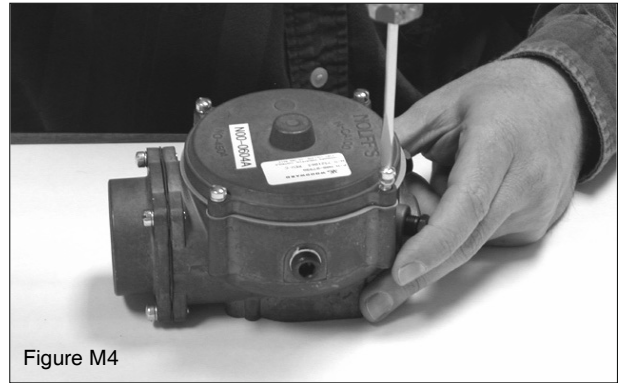

Figure M4
1. With the mixer/adapter assembly removed from the engine, and the throttle adapter removed from the mixer, remove the four cover retaining screws from the top of the mixer (Figure M4).